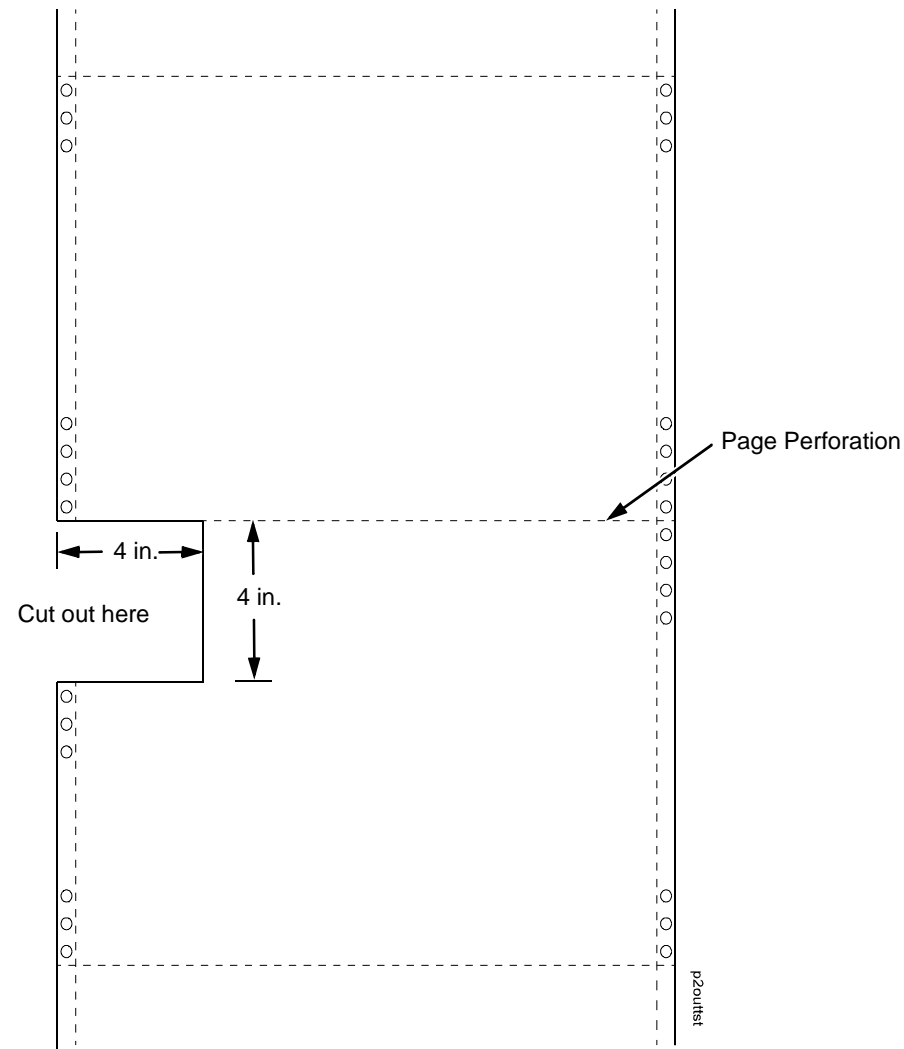

Figure 37. This figure shows how to prepare paper for the paper out adjustment test.
3. On the sheet of paper just below the paper entrance slot, tear a four-inch square on the left side, immediately below the perforation. (See Figure 37.) This creates a hole that will trigger an END OF FORMS condition, but allows printing to the right of the hole (which would normally be on the platen).